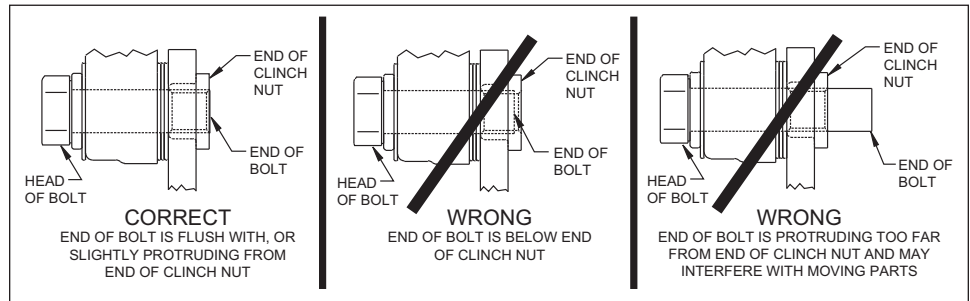

Figure 4. Clinch Nut Engagement Diagram
- Slide the caliper mounting bracket kit assembly (1) onto the housing flange and then insert the axle assembly through the center hole of the caliper mounting bracket assembly (1) and secure using the stock Original Equipment Manufacturer (OEM) bolts and nuts. Stock OEM hex nuts that retain the caliper mounting bracket assembly (1) should be on the wheel side of the bracket. Apply red *Loctite*® 271 to the stock OEM bolt threads and torque to OEM specifications. Make sure the heads of the caliper mounting bracket assembly (1) insert nuts are FACING OUTWARD TOWARDS THE WHEEL.
- Align the correct hole pattern in the rotor (2) with the stud pattern on the axle flange. **NOTE:** Some OEM and after market axles come with stud sizes larger than 0.50" diameter. Verify stud size and have a qualified machine shop drill the bolt circle of the rotor to the correct stud size, if necessary. Slide the rotor (2) over the wheel studs covering the mounting bracket assembly (1) and against the axle flange face.
- **NOTE:** Please reference the caution statement at the beginning of the assembly instructions. Mount the caliper (3) over the rotor (2) and onto the caliper mounting bracket (1) using washers (4) and mounting bolts (5). View the rotor through the top opening of the caliper. The rotor should be aligned in the center of the caliper. If not, adjust the caliper by using 0.032 inch shims (6) by placing them between the caliper mounting bracket (1) and the caliper (3). Add as many shim washers (6) as necessary to achieve the correct alignment. **NOTE:** The end of the bolt must be flush with or slightly protruding from the head of the clinch nut. See Figure 4. Place spare shims (6) between washer and caliper mounting ear to achieve the proper mounting fastener configuration. Always use the same amount of shims on both the top and bottom caliper mounting bolts (5). Apply red *Loctite*® 271 to the mounting bolt threads (5), torque to 40 ft-lb..
- Position the Wilwood disc brake pads (7) into the caliper (3) and fasten with cotter pin (8). Steel backing plate side of brake pad should face the caliper pistons.
- **NOTE:** Clevis and cable kits which attach to the parking brake assembly are not included in the Wilwood parking brake kit. Wilwood offers a generic style parking brake cable kit, P/N 330-9371 for this application which can be ordered separately from your local Wilwood dealer or by calling Wilwood customer service at (805) 388-1188.
- Before final installation of the wheel, install a couple of lug nuts and adjust the parking brake shoes outward (using a drum shoe adjustment tool available at your local auto parts store) while spinning the rotor/hat (2) until a slight drag is felt again the hat/drum.